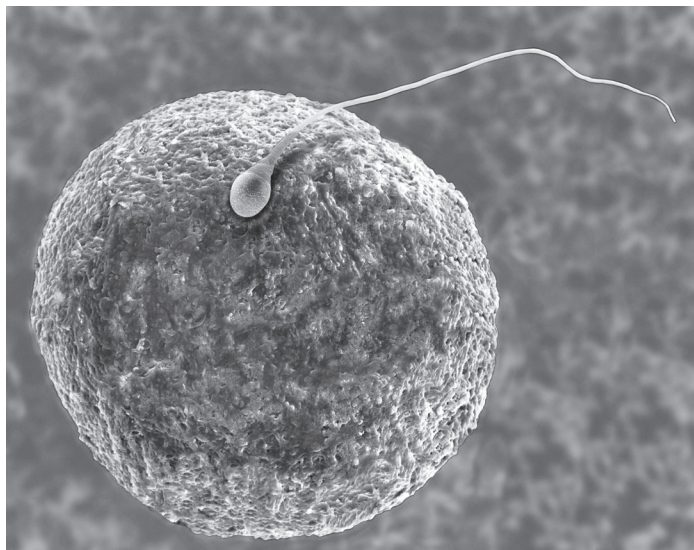

Fig. 2.2
(b) Fig. 2.2 is a different photomicrograph of an ovum and one sperm cell.
- (i) Make a large drawing of the ovum and the sperm cell shown in Fig. 2.2.
- (ii) State **three** visible differences between the ovum and the sperm cell that can be seen in Fig. 2.2.